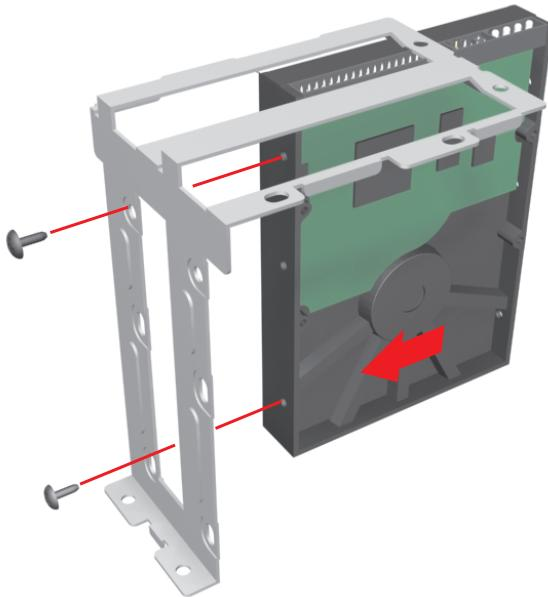

Figure 12. Inserting the New Drive into the Basket
1. Mount the new drive in the drive basket. Use the drive slot closest to the CD-RW drive. Refer to Figure 12.